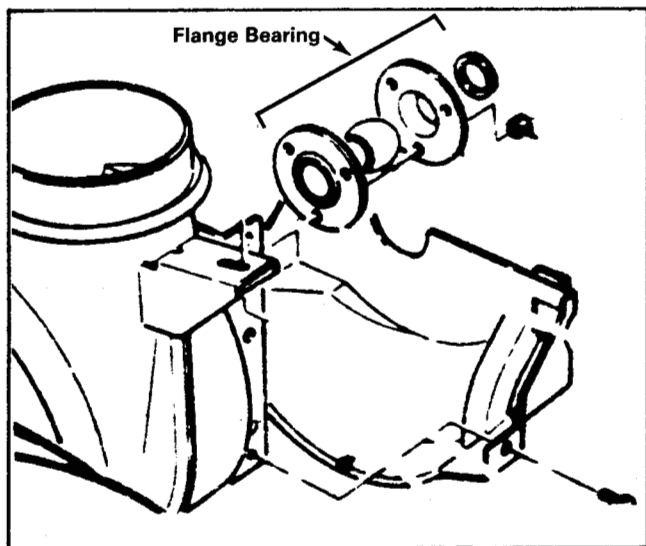

Figure 102
2. Loosely fasten the flange bearing to the rear of the front housing using Figure 102 as a guide.